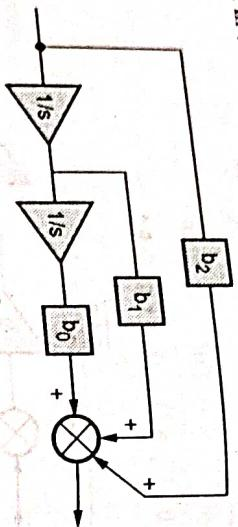

Fig. Q.9.3
- If numerator is  $b_0 + b_1 s$  then  $b_0$  block is at the end of the block diagram while  $b_1$  is taken from input of first integrator as shown in the Fig. Q.9.3.
- For  $b_0 + b_1 s + b_2 s^2$ , the block  $b_2$  is taken from input of second integrator as shown in the Fig. Q.9.3.